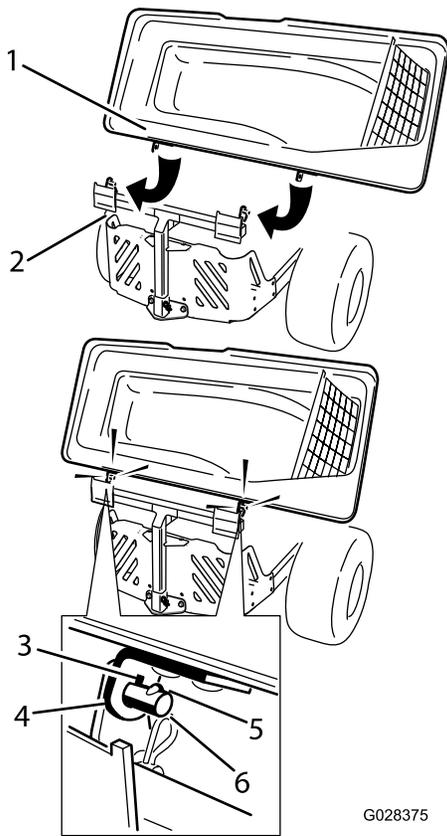

Figure 3
2. Install the bagger top to the bagger frame. Rotate the bagger top to align the key holes in the bagger top brackets with the keys in the posts on the bagger frame (Figure 3). Slide the brackets over the posts and rotate the bagger top down to the operating position.